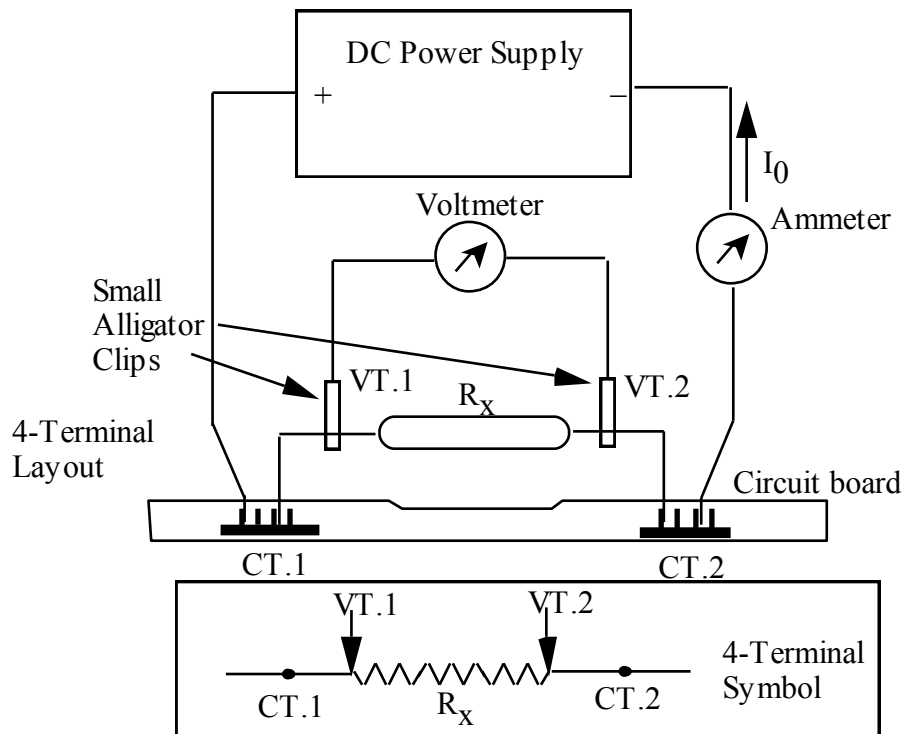
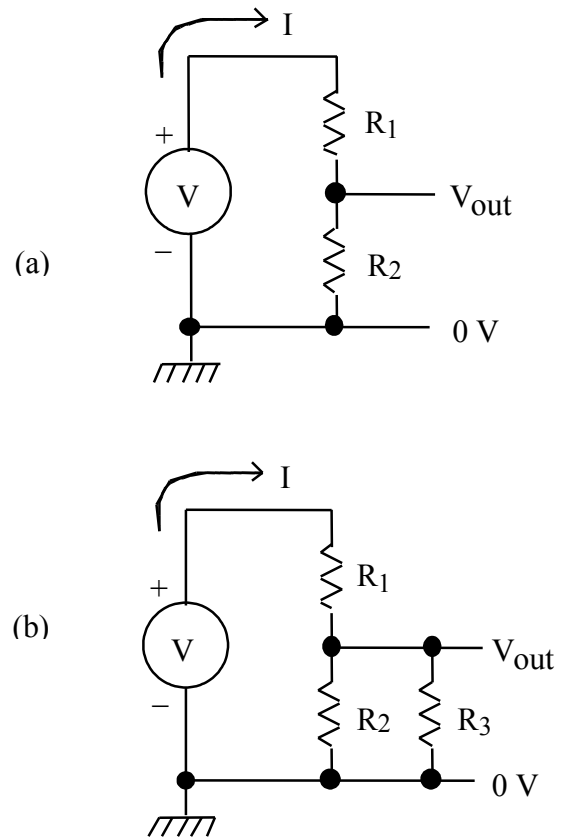

Fig 2.2 4-Terminal Connections: Physical and Schematic
Figure 2.4 Voltage dividers
Typically, when we wish to measure the resistance of a circuit element we can simply connect the element between the two leads of a DMM and read “Ohms”. With the modern digital DMM this works quite well unless the resistance of the element to be measured is small - not very much higher than the resistances of the leads or contact resistances between the sample and the leads (probably less than an ohm for your leads). If the element’s resistance is not much higher than the leads, then the lead resistance will make a sizeable impact on the measurement, skewing it badly. The way around this is to use the method of 4-terminal connections, in which the current leads are separate from the voltage leads. A schematic is shown in Figure 2.2.
1. Voltage dividers. An ideal voltage source drives current around the loop of resistors shown in Figure 2.4(a).
(C) Calculate the voltage V_{out} for the modified circuit shown in Figure 2.4(b) with $R_3 = 10\text{ M}\Omega$ and the other components unchanged.
2. (A) What is the diameter of a typical copper wire 6-ft long if its resistance (at room temperature) is $0.1\ \Omega$? Assume that the resistivity of copper at room temperature is $1.68\ \mu\Omega\text{-cm}$.
1. Build three copies of the simple voltage divider circuit of prelab Figure 2.4(a), with both resistors approximately equal to each other. In the first circuit use relatively low resistances of about $1\text{ k}\Omega$. In the second use resistances near $1\text{ M}\Omega$, and in the third use resistors of $10\text{ M}\Omega$ or more.
- (A) Measure each resistor with your DVM before inserting them into your circuit and record the values.
- (B) Apply a DC voltage to the input and measure the output voltage of your dividers first using first your DVM and second your oscilloscope. Record your findings. (Do not have the DVM and the oscilloscope connected at the same time because each will perturb the measurement differently.)
- (C) Compare the voltages you expected to the voltages you measured. What does this tell you about the input impedances of your instruments?
5. Determine the resistivity of copper metal in $\mu\Omega\text{-cm}$ by measuring the resistance of the sample and its dimensions. Use 4-terminal connections (Fig 2.2) and measure the voltage drop along the sample with a known current passing through it to find the resistance. When measuring the diameter of the wire, remember that the thickness of the enamel coating may not be negligible. The power supply will give you the current on its display, or you can measure it with a DMM on the current range. Hint: The correct result appears in prelab question 2.